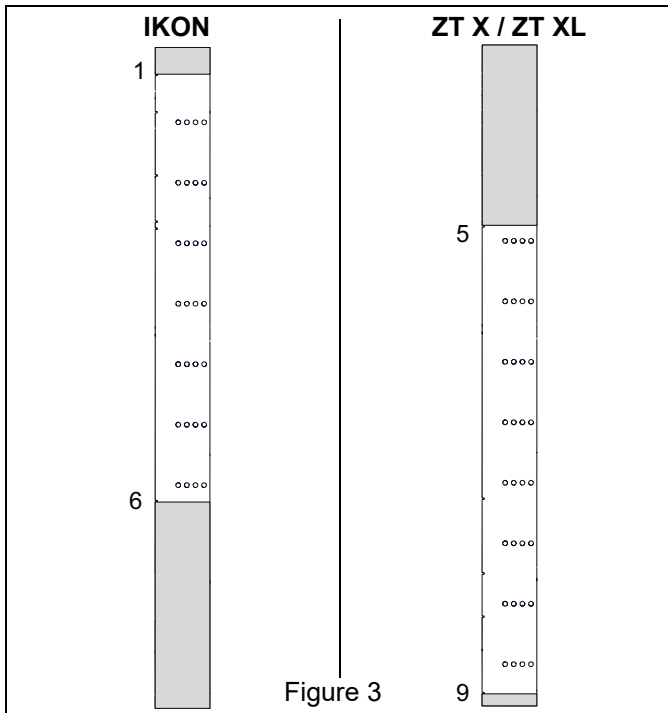

Figure 3
1. Trim rubber skirt (item 1) as shown in Figure 3.